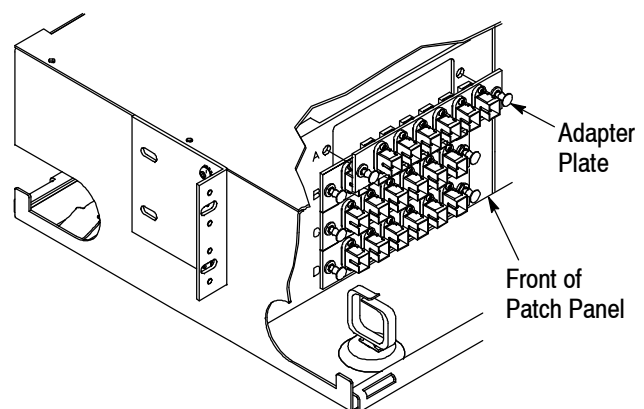

Figure 4
1. Position the adapter plate over the front of the patch panel so that the split end of the lock pins align with the holes in the patch panel. Push the lock pins into the holes until the adapter plate is secure. See Figure 4.